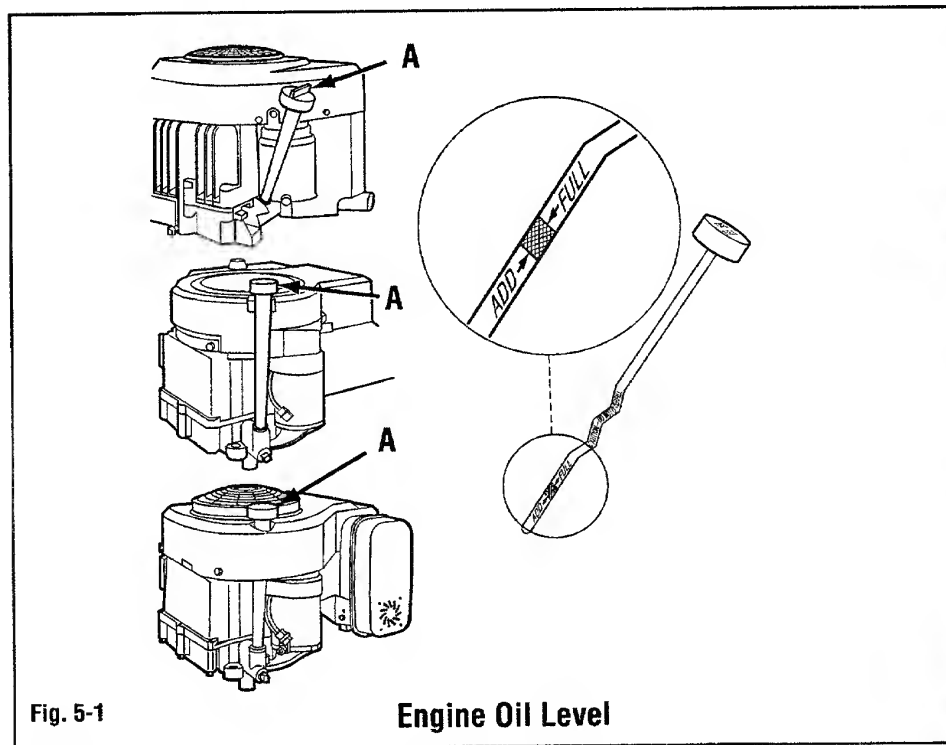

Fig. 5-1
- ☐ a. Remove oil dipstick (A, Fig. 5-1). Wipe oil from dipstick with clean cloth.
- ☐ c. Remove dipstick and check oil level. Oil level is indicated by marks on dipstick. Level should be between "Full" and "Add" marks (Fig. 5-1).